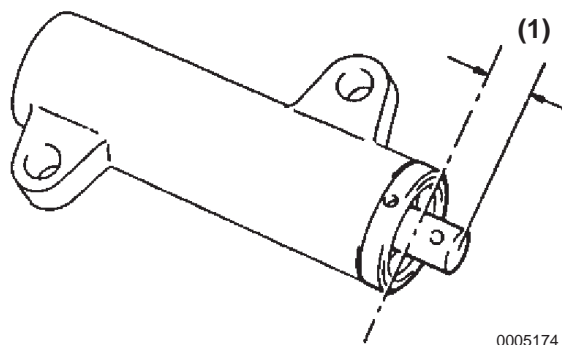

Figure 5-175
3. Measure the push rod protrusion (**Figure 5-175, (1)**) from the end of housing.